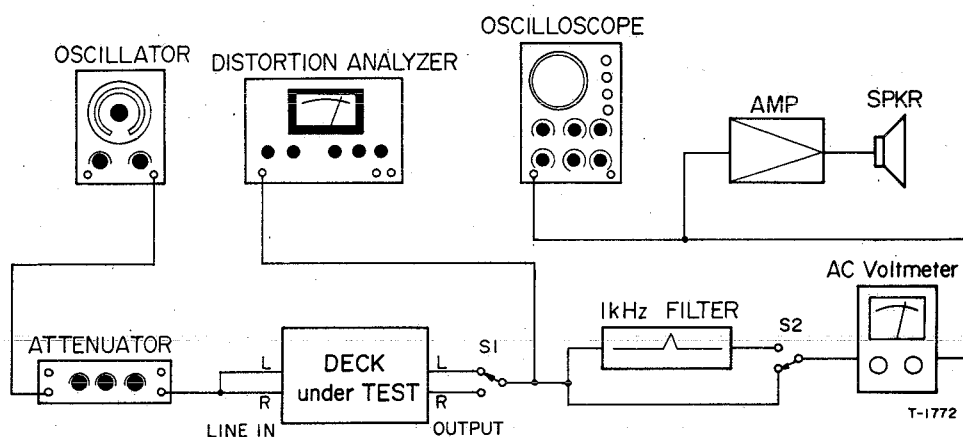

Fig. 5-1 Basic test setup
16. Erase efficiency	● Connection — Fig. 5-1. But switch ON 1 kHz filter. ● Record 1 kHz. Rewind tape to mid point of recorded portion. Do “no signal” recording. Get difference between 1 kHz portion and its erased portion.
17. REC MUTE function	● Connection — Fig. 5-1. But switch ON 1 kHz filter. ● Record 1 kHz. Then push REC MUTE button for several sec. Rewind and play tape. Get difference between 1 kHz portion and the “no signal” portion.
18. Channel separation	• Connection – Fig. 5-1. But do not connect LINE IN (R), switch ON 1 kHz filter. • Set deck in record mode. Find differences between 1 kHz recorded portion (L-ch) and “no signal” portion (R-ch).
19. Adjacent track crosstalk	• Connection – Fig. 5-1. But do not connect LINE IN (L) and OUTPUT (L). • Record 125 Hz on R-ch. Note output level of its recorded portion. Invert tape and play R-ch track. Check leakage level against the output reference of previously recorded portion.